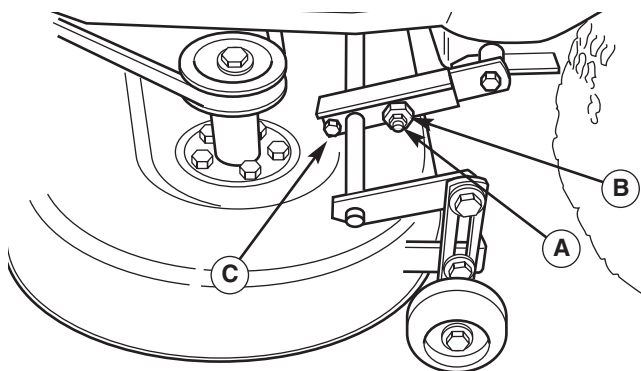

**Figure 33. Measure Blade Tips to Ground**
5. Measure the distance between the tips of the outside blades and the ground (Figures 33 & 34). If there is more than 1/8" (3mm) difference between the measurements on each side, proceed to step 6. If the difference is 1/8" (3mm) or less, proceed to Front To Back Leveling.